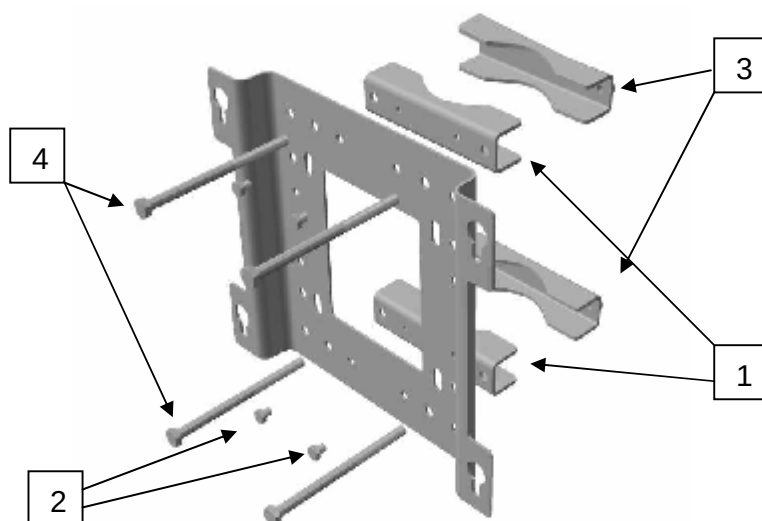
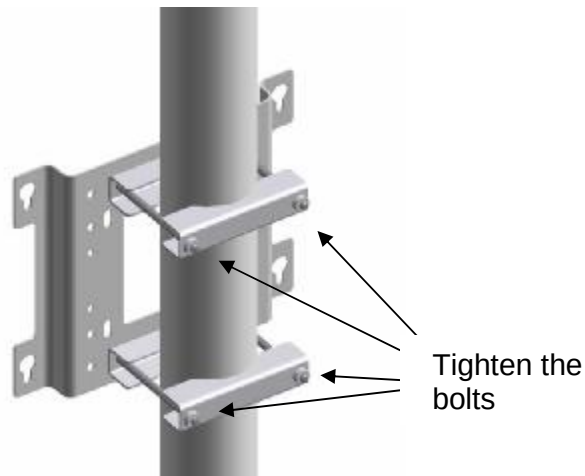

Figure 10: Fix the inner clamps to the mounting plate by using the four small screws.
Figure 11: Fixing the mounting plate on a pole.
Step 2: Join the inner clamp halves (1) and the mounting plate, using the four M8 × 12 mm bolts (2). Tightening torque, 21 Nm. See figure 10.
Step 3: Then mount the outer clamps (3) loosely, each with one of the long bolts (4) (M 10 × 200 mm or M 10 × 140 mm). Check that there is enough space for the pole. See figure 10.
Step 4: Finally check that the two remaining long bolts (4) are accessible.
Position the clamps around the pole and insert the two remaining long bolts (M10 × 200 mm or M10 × 140 mm). Position (4) on figure 10. Tighten all four bolts, taking care to keep the two halves of each clamp parallel. See figure 11.